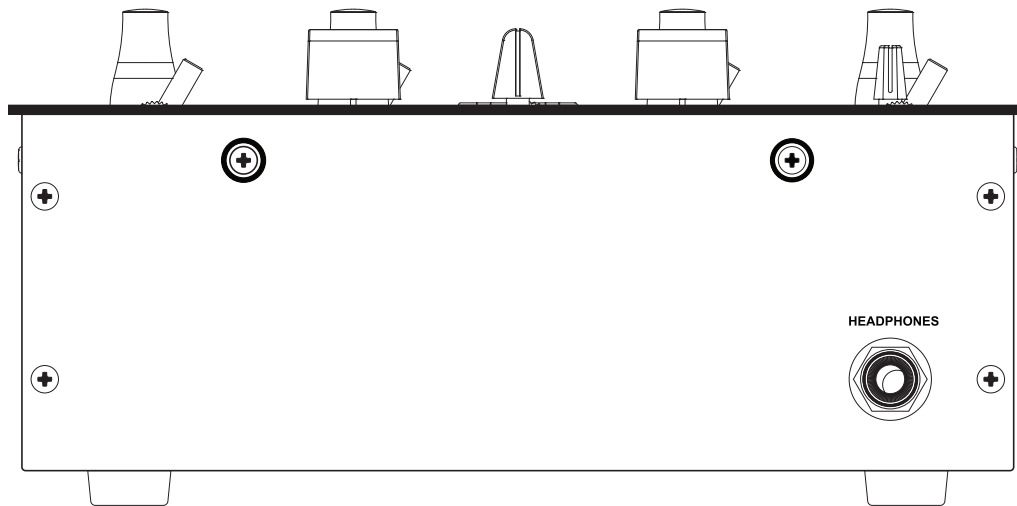

Figure 3.2
First, connect all input sources. Next, connect your microphone and headphones (located in the Front Panel, Figure 3.2). Finally, connect the stereo outputs to the power amplifier(s) and/or audio receivers such as tape decks. Plug your mixer and other devices into AC power. Now, switch everything on in the following order; audio input sources such as turntables or CD players first, then your mixer, and finally any amplifiers.
3.2 M.203 Description - Front Panel (Figure 3.2)